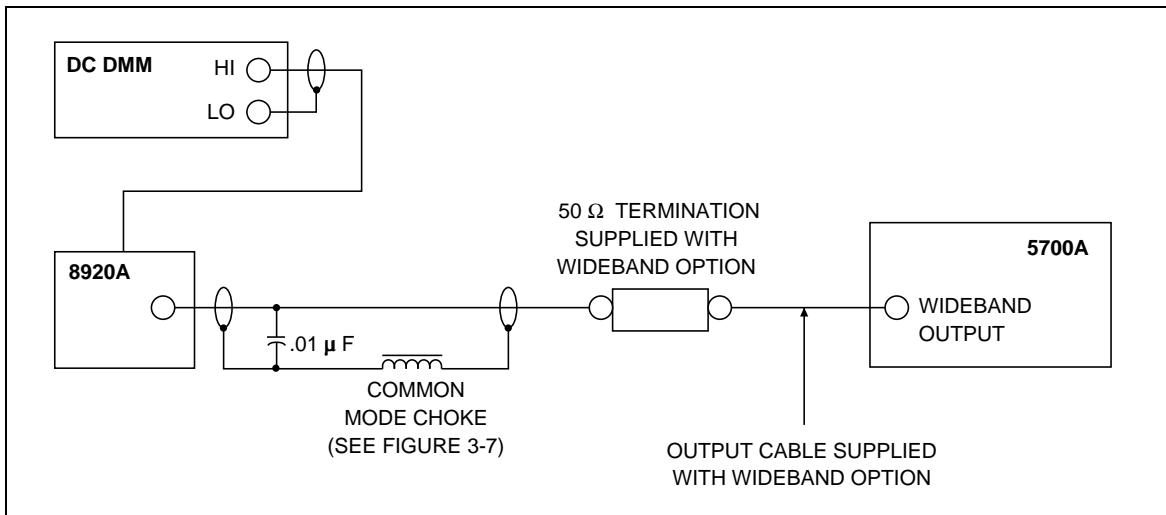

Figure 3A-14. Wideband Accuracy at 1 kHz Test Setup
- Connect the equipment as shown in Figure 3A-14.